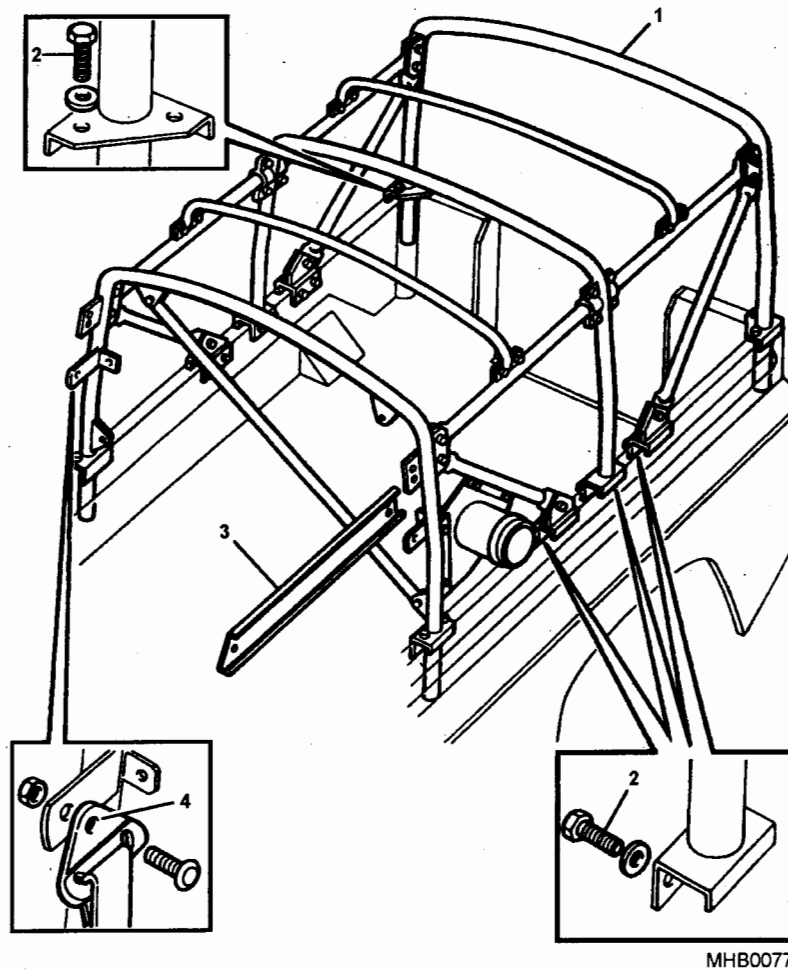

Fig 17 Hood support frame
45.2 Detach the drivers and passenger seat belt top fixings (Fig 17 (4)) from the brackets on the support frame.